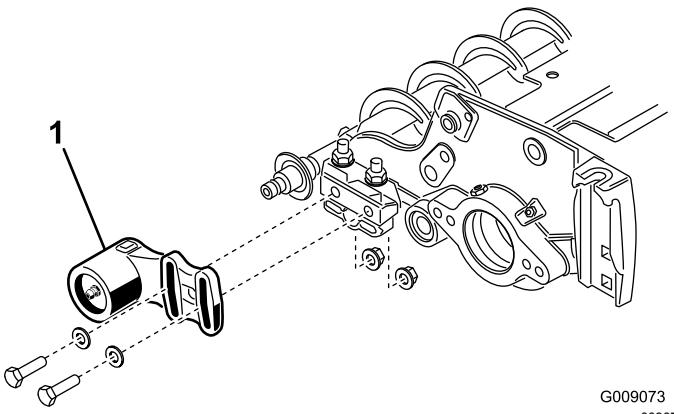
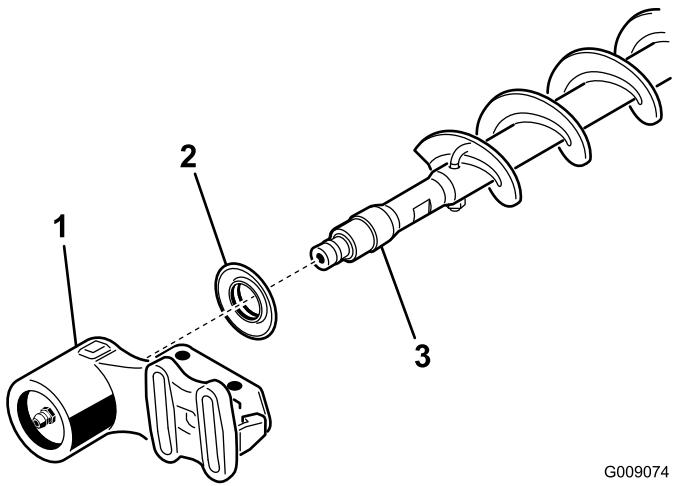

Figure 36
Figure 37
securing the non-drive-bearing housing to the bearing-housing mounting bracket (Figure 36 and Figure 37).
2. Slide the non-drive-bearing housing and the excluder seal off the brush shaft (Figure 37).
9. Install the excluder seal and the non-drive-bearing housing onto the brush shaft (Figure 37).